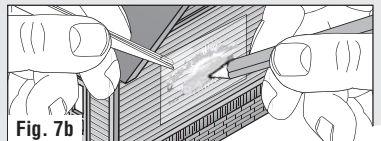

Fig. 7b
- Position in desired location and rub over entire Decal area with burnisher or dull pencil (Fig. 7b).